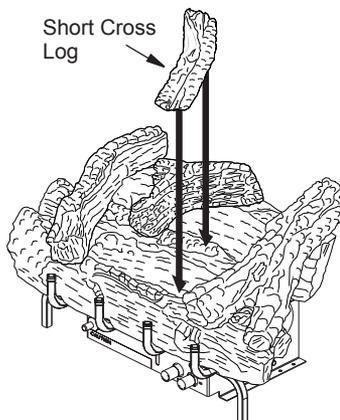

Figure 23 - Installing Short Cross Log for 30" Models Only
7. For 30" models: place short cross log as shown in figure 23.